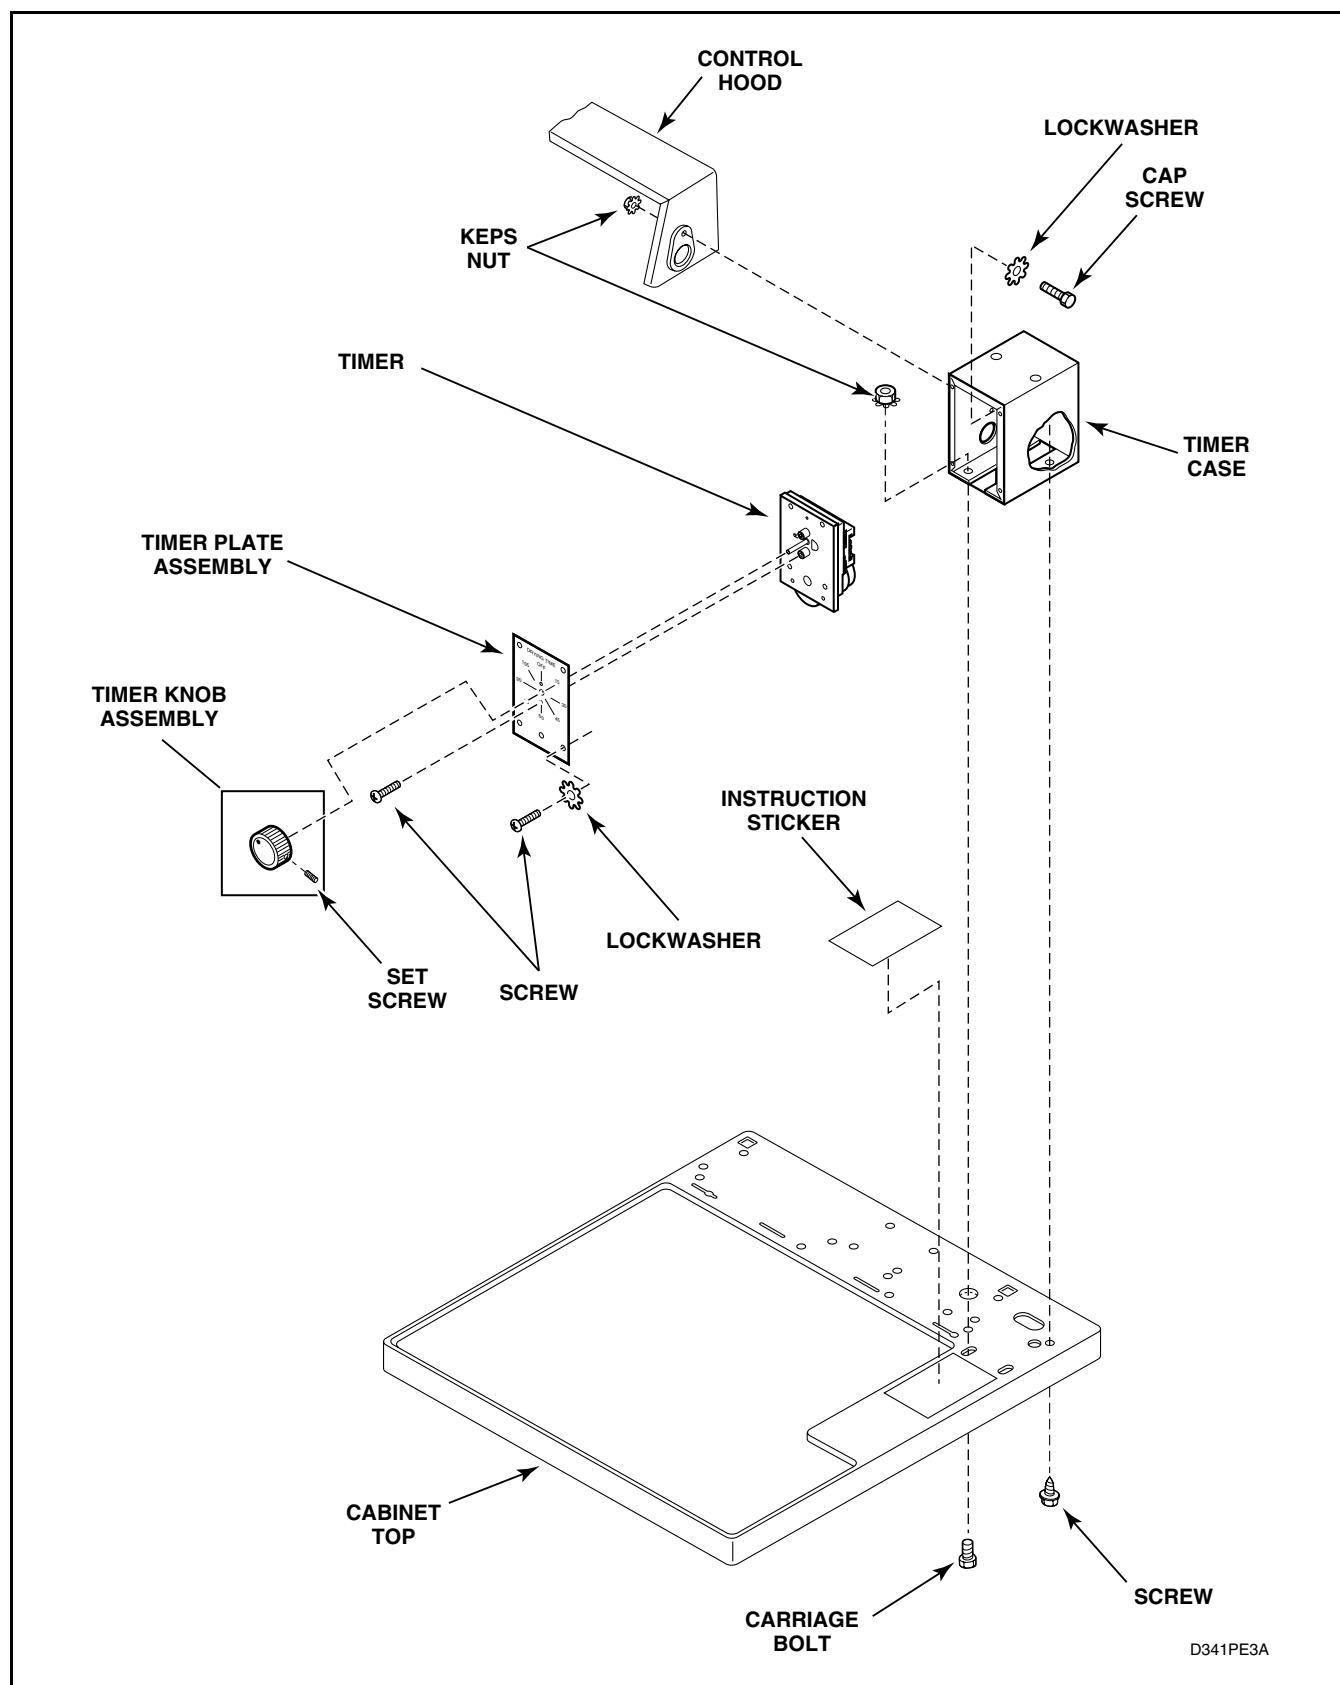

Figure 6
- (1) Once panel overlay is fitted to the front of control panel frame, carefully peel protective backing from the left end of panel overlay and press into place.
- (2) Remove rest of protective backing from panel overlay and firmly press overlay into place on control panel frame.
- a. Refer to *Figure 6* for timer removal.
- g. Remove two screws holding timer to plate. Refer to *Figure 6*.